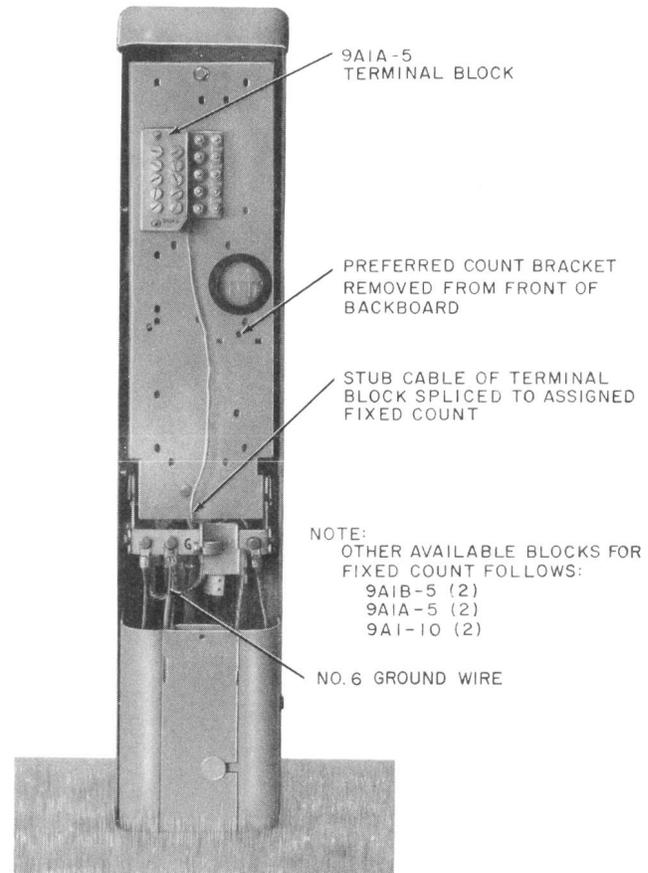

Fig. 19—Fixed Count PC6/48 Cable Closure With 9A-Type Protected Block
6.07 Remove the preferred count bracket from the front of backboard then mount the terminal block on the backboard. Refer to decal on back of front cover for block location. Secure backboard in upright position (Fig. 19 and 20).